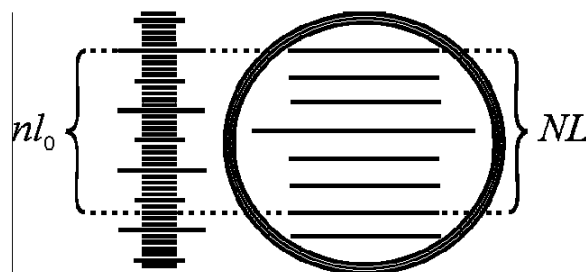

Figure 515.4. Determining the magnification of a telescope (example):
To determine the magnification of a telescope in practice, we will use the following procedure. Take a gauge with the distance l_0 between the marks. Observing the gauge through the telescope with one eye and directly with the other eye, combine the images so that the image inside the telescope overlaps with the gauge visible to the naked eye (Fig. 515.4).
3. Count n marks on the gauge and the corresponding number N of marks on the image of the gauge (Fig. 515.4).